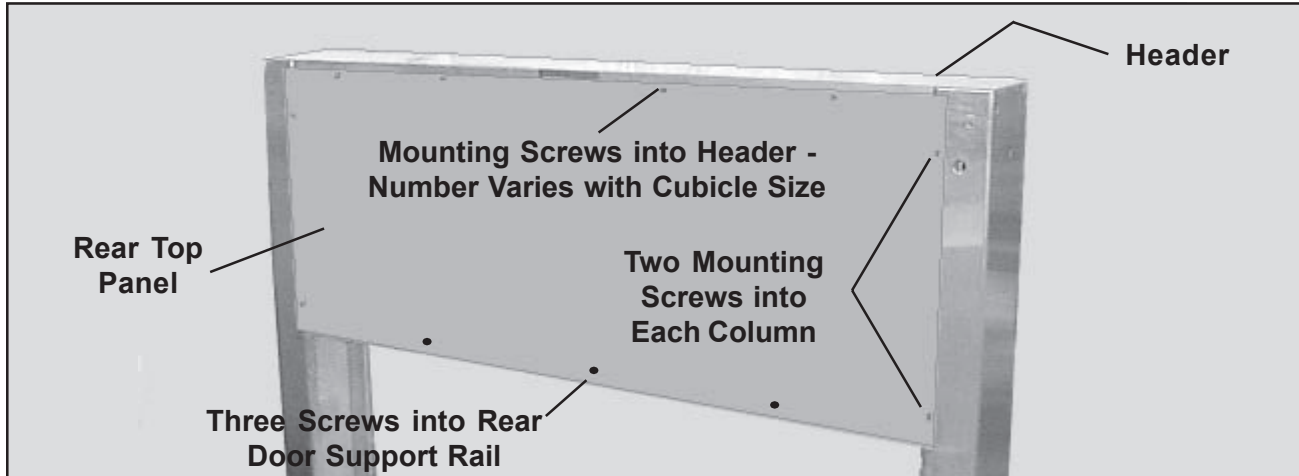

Figure 73. Rear View of Cubicle Showing Rear Top Panel
1. Remove the three Phillips screws that secure the rear top panel to the rear door support rail (Figure 73).